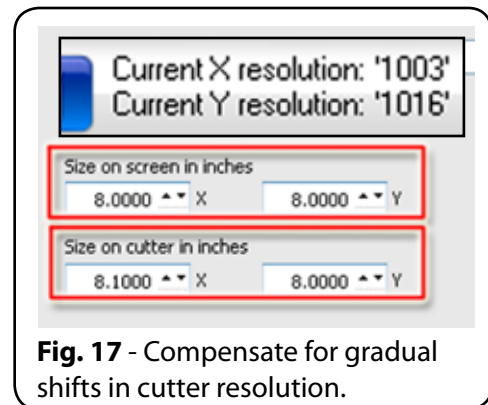

Fig. 17 - Compensate for gradual shifts in cutter resolution.
- **Manual Cutter Calibration** – For heavily-used cutters that are demonstrating a need for replacement parts, Visual Production Manager provides an interim software solution (Fig. 17) that compensates for gradual shifts in cutter calibration.